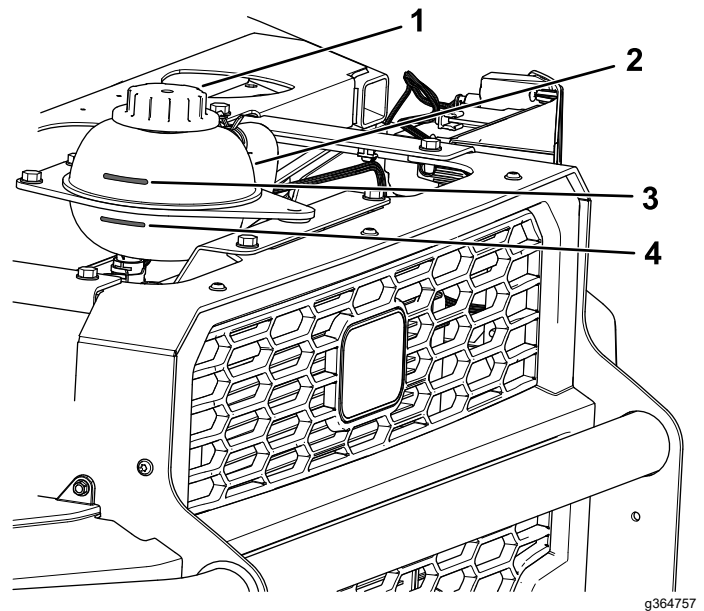

Figure 124
4. Check the coolant level in the coolant tank (Figure 124).